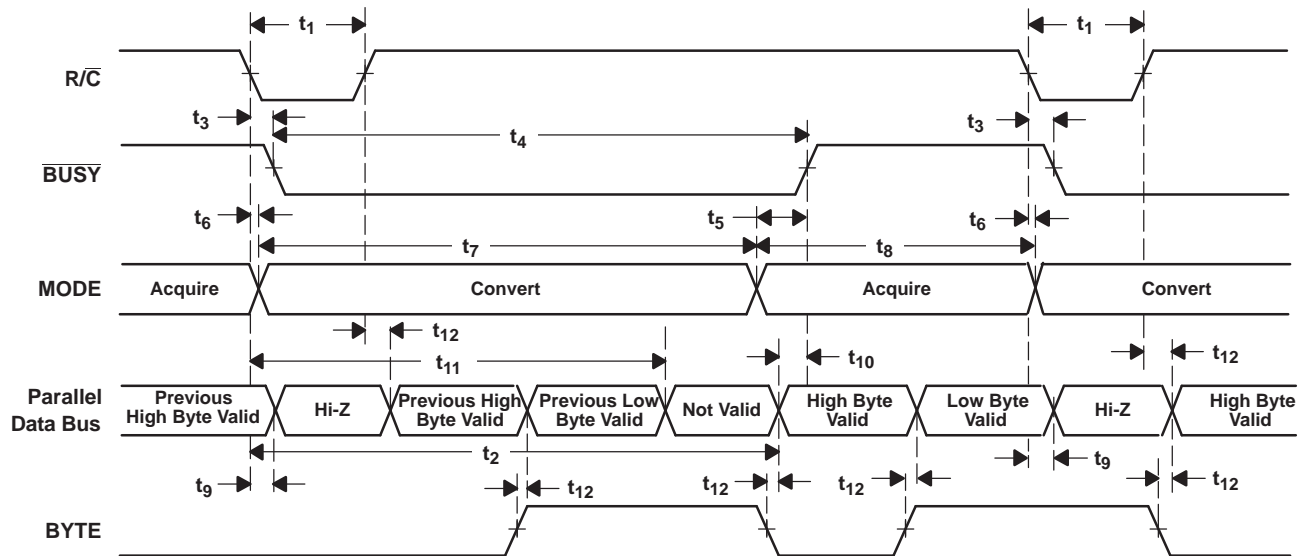
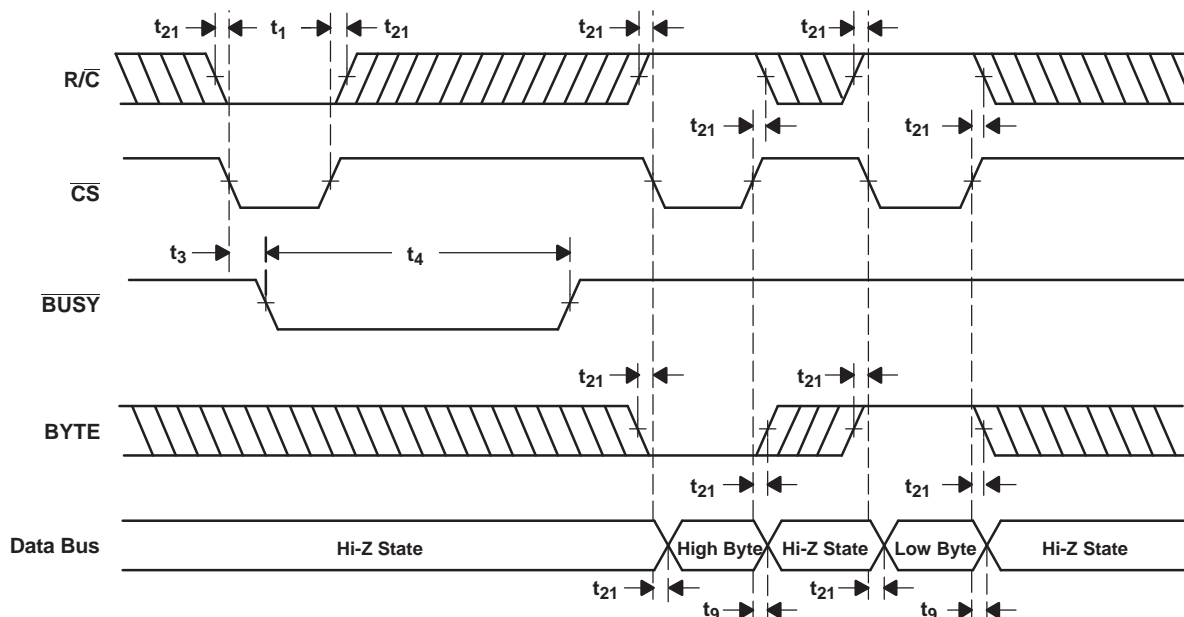

Figure 33. Conversion Timing With Parallel Output ( $\overline{CS}$  and DATACLK Tied Low, EXT/INT Tied High)
Figure 34.  $\overline{CS}$  to Control Conversion and Read Timing With Parallel Outputs
The ADS8507 begins tracking the input signal at the end of the conversion. Allowing 25  $\mu$ s between convert commands assures accurate acquisition of a new signal. Refer to Table 2 and Table 3 for a summary of  $\overline{\text{CS}}$ ,  $\text{R}/\overline{\text{C}}$ , and  $\overline{\text{BUSY}}$  states, and Figure 33, Figure 34, Figure 35, Figure 36, Figure 37, Figure 38, and Figure 39 for timing diagrams.
(1) See Figure 33 and Figure 34 for constraints on data valid from conversion N-1.
After conversion  $N$  is completed and the output registers have been updated,  $\overline{BUSY}$  (pin 24) goes high. Valid data from conversion  $N$  is available on D7-D0 (pin 9-13 and 15-17).  $\overline{BUSY}$  going high can be used to latch the data. Refer to Table 5 and Figure 33 and Figure 34 for timing specifications.
After conversion  $N$  has been initiated, valid data from conversion  $N-1$  can be read and is valid up to 12  $\mu\text{s}$  after the start of conversion  $N$ . Do not attempt to read data beyond 12  $\mu\text{s}$  after the start of conversion  $N$  until  $\overline{BUSY}$  (pin 24) goes high; this may result in reading invalid data. Refer to Table 5 and Figure 33 and Figure 34 for timing constraints.